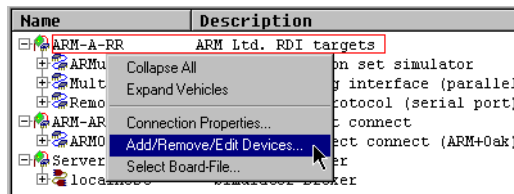

Figure 3-16 The ARM-A-RR vehicle context menu
3. Right-click on the ARM-A-RR vehicle entry and select **Add/Remove/Edit Devices...** from the context menu (Figure 3-16 on page 3-22).